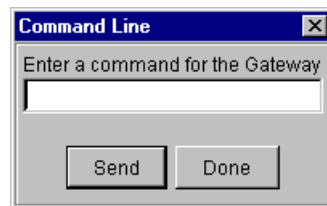

Figure 4-7. Command Line dialog box
1. Choose System → Command Line. The Command line dialog box opens (Figure 4-7).